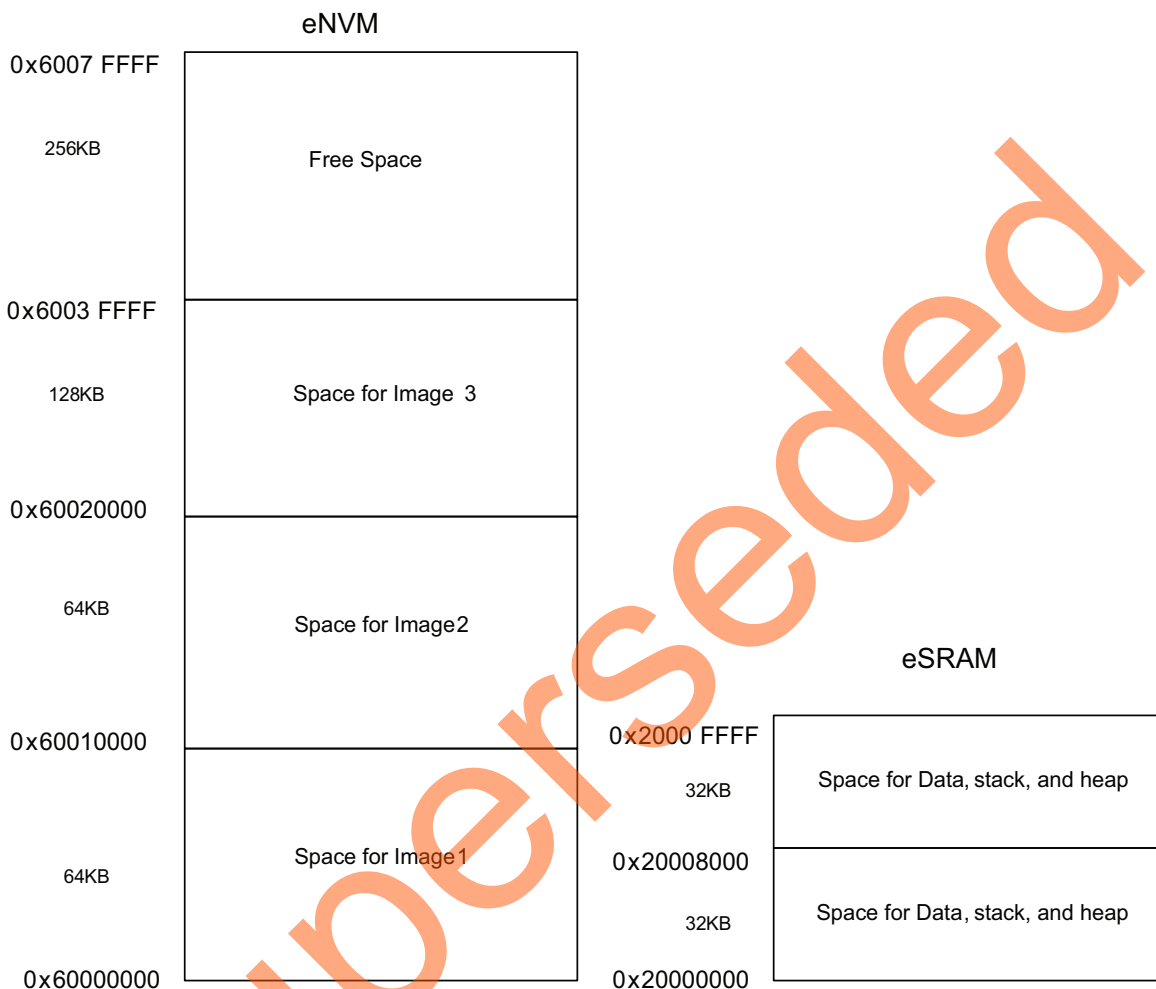
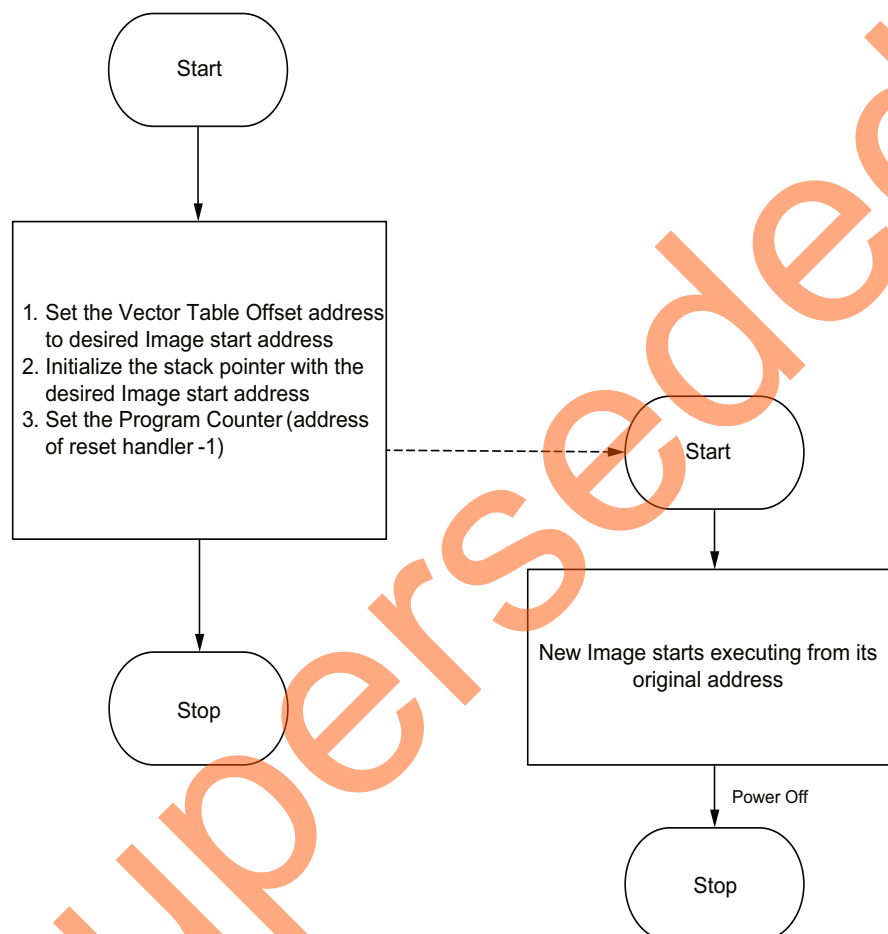
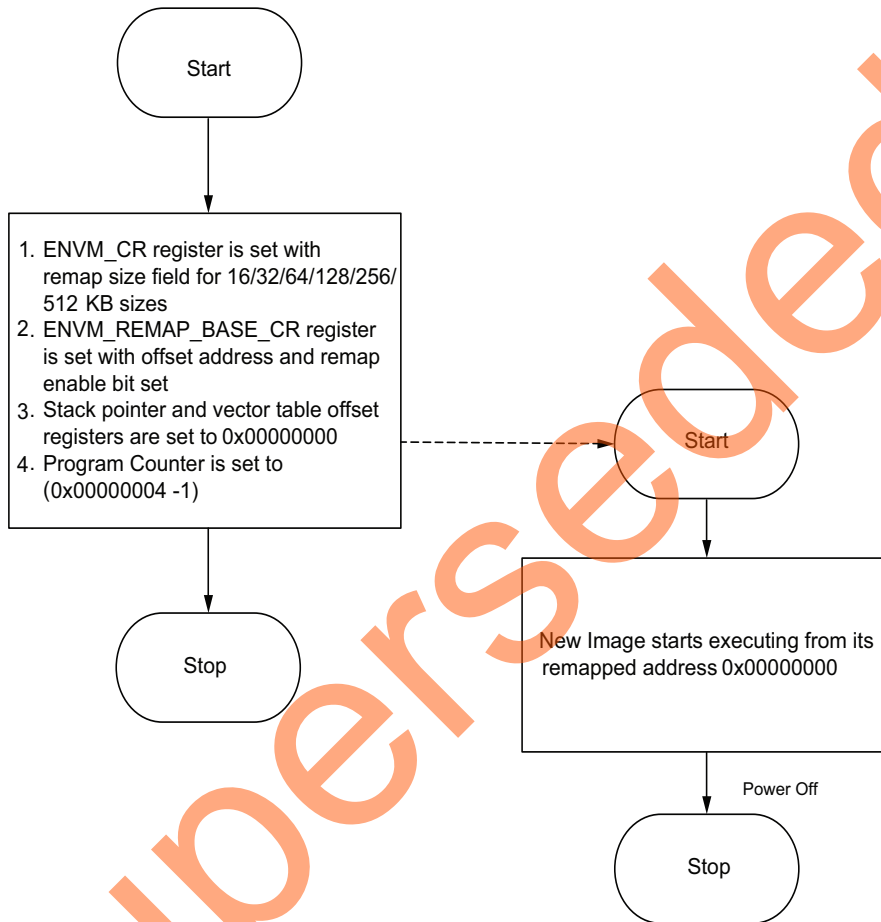

Figure 8 • Example Scenario of Multiple Executable Images in eNVM
Figure 9 • Logic for Moving Execution Control to New Image in eNVM without Remapping
Figure 10 • Logic for Moving Execution Control to New Image in eNVM with Remapping
Figure 8 shows an example scenario with multiple executable images in the eNVM regions.
In the example scenario (as shown in Figure 8), there are three images, which can be remapped to the starting address of the Cortex-M3 processor code space, or can be made executable for the Cortex-M3 processor. To create the independent executable images with the required memory map, it is required to create the linker scripts with the required memory map. The linker scripts are provided in the "Appendix A: Design Files" section. Once the executable images are created for the required memory map in Production mode, these images are added in the programming file using the eNVM clients in the Libero SoC hardware (HW) creation flow.
- **Without remapping:** By default, the eNVM base address 0x60000000 is remapped to the starting address of the code space of the Cortex-M3 processor. The vector table address of the desired image can be set by using the vector table offset register in the system registers, and pointing the stack pointer (SP) and program counter to the reset handler address of the desired image. This allows the Cortex-M3 processor to execute the new image. The eNVM offset address must be used in the linker script generation for the executable images in this approach. This approach is explained in the flow chart shown in Figure 9.
For example, for the memory map of the different images explained in the Figure 8, the images are built with the base address as shown in Figure 8. To run Image 2 while Image 1 is running, use the following steps, as shown in Figure 9:
- **With remapping:** In this approach, the new image address can be remapped to the starting address of the code region of the Cortex-M3 processor by using the ENV_M_CR, ENV_M_REMAPSIZE, and ENV_M_REMAP_BASE_CR registers. As the new image address is remapped to the bottom (0x0000_0000) of the Cortex-M3 processor code region, the linker scripts take care of building the images from the bottom (0x0000_0000) code region. The eNVM offset address must not be used in this approach. This approach is explained in the flow chart shown Figure 10.
For example, for the memory map of the different images explained in the Figure 8, the images are built with 0x00000000 as base address. To run the Image 2 while Image 1 is running, use the following steps (explained in Figure 10):